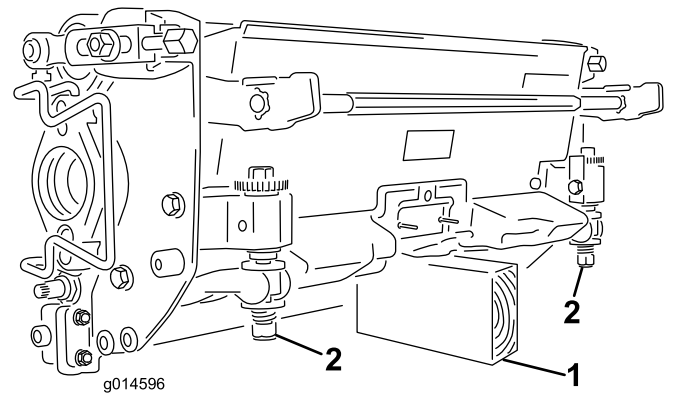

Figure 51
**Important:** Whenever you need to tip the cutting unit, prop up the rear of the cutting unit to ensure that the nuts on the bedbar adjusting screws are not resting on the work surface (Figure 51).